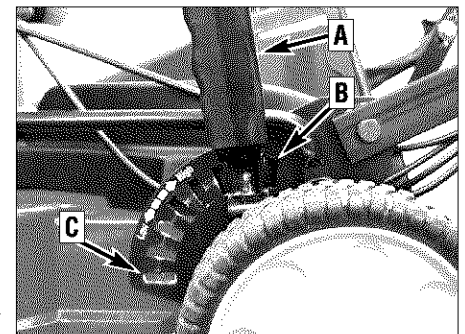

Figure 4-6: Cutting height adjustment.
a. To adjust cutting height, pull the Cutting Height Lever (A, Figure 4-6) away from the mower to release the tab from the slot. Be sure to grip the lever firmly to prevent the mower deck from dropping down rapidly.
b. While pulling the lever away from the mower, move the lever towards the back of the mower (B, Figure 4-6) for a higher cut or towards the front of the mower (C) for a lower cut.